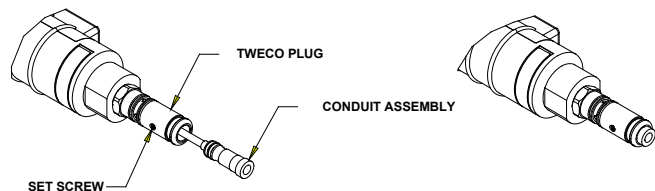

Figure 4a: Conduit Installation with Set Screw
10. Loosen the set screw located on the Tweco®, Panasonic®, or Lincoln® rear connector plug to ensure the conduit will feed through properly. For Miller style plug, remove the threaded connector plug nipple from the rear connector plug on the torch assembly. Refer to Figures 4A & 4B.